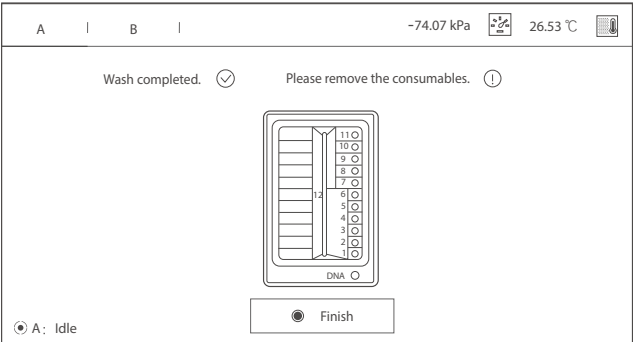

Figure 12 MGIDL-T7RS flow cell loading complete status window
19. When the loading is complete, install the washing flow cell onto the flow cell stage and press the flow cell attachment button. Tap **Confirm** button as shown in *Figure 12 on Page 55*.